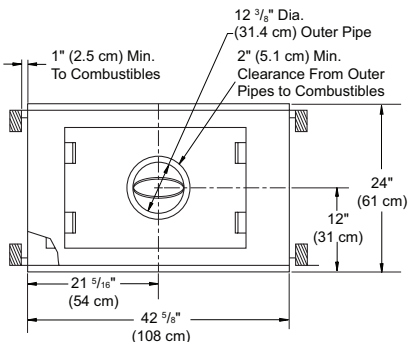

Figure 6 - Framing Clearances
1. Frame the opening for the firebox using the dimensions shown in Figures 6 and 7 depending on your installation.